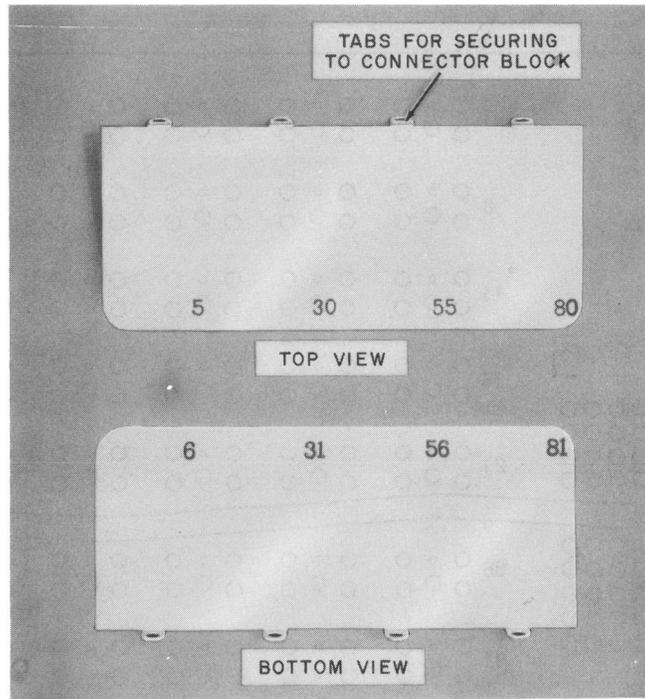

Fig. 8—Plastic Number Plates
**5.04** ***Number Plates (Fig. 8):*** The four plastic number plates used to identify pairs on the 302-type connectors equipped with protector units can be removed and new ones reinserted. The number plates are held in position on the connector panel by inserting them under the protector units. Table B contains the part numbers of the various number plates.